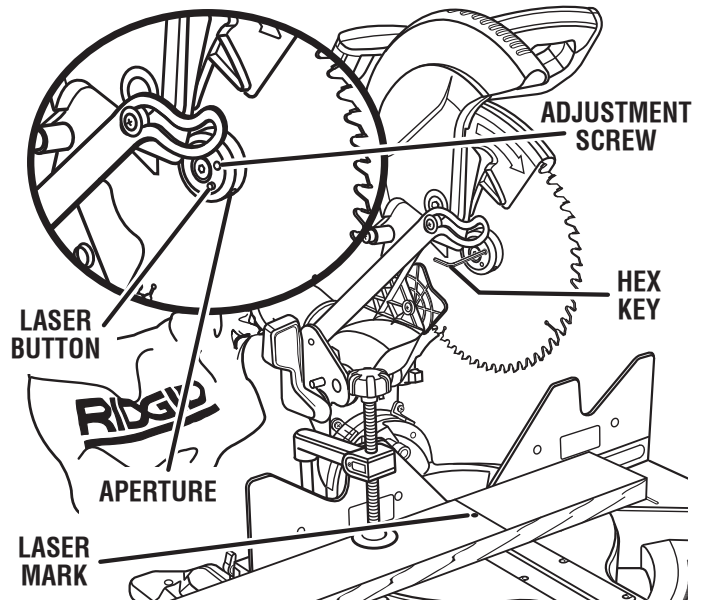

Fig. 42
See Figure 42.
- Rotate the blade by hand until you can push and hold the laser button and the laser is near the center of the workpiece as shown in figure 42.
- To adjust the laser, turn the adjustment screw counter-clockwise or clockwise using the hex key (1/16 in.) provided.